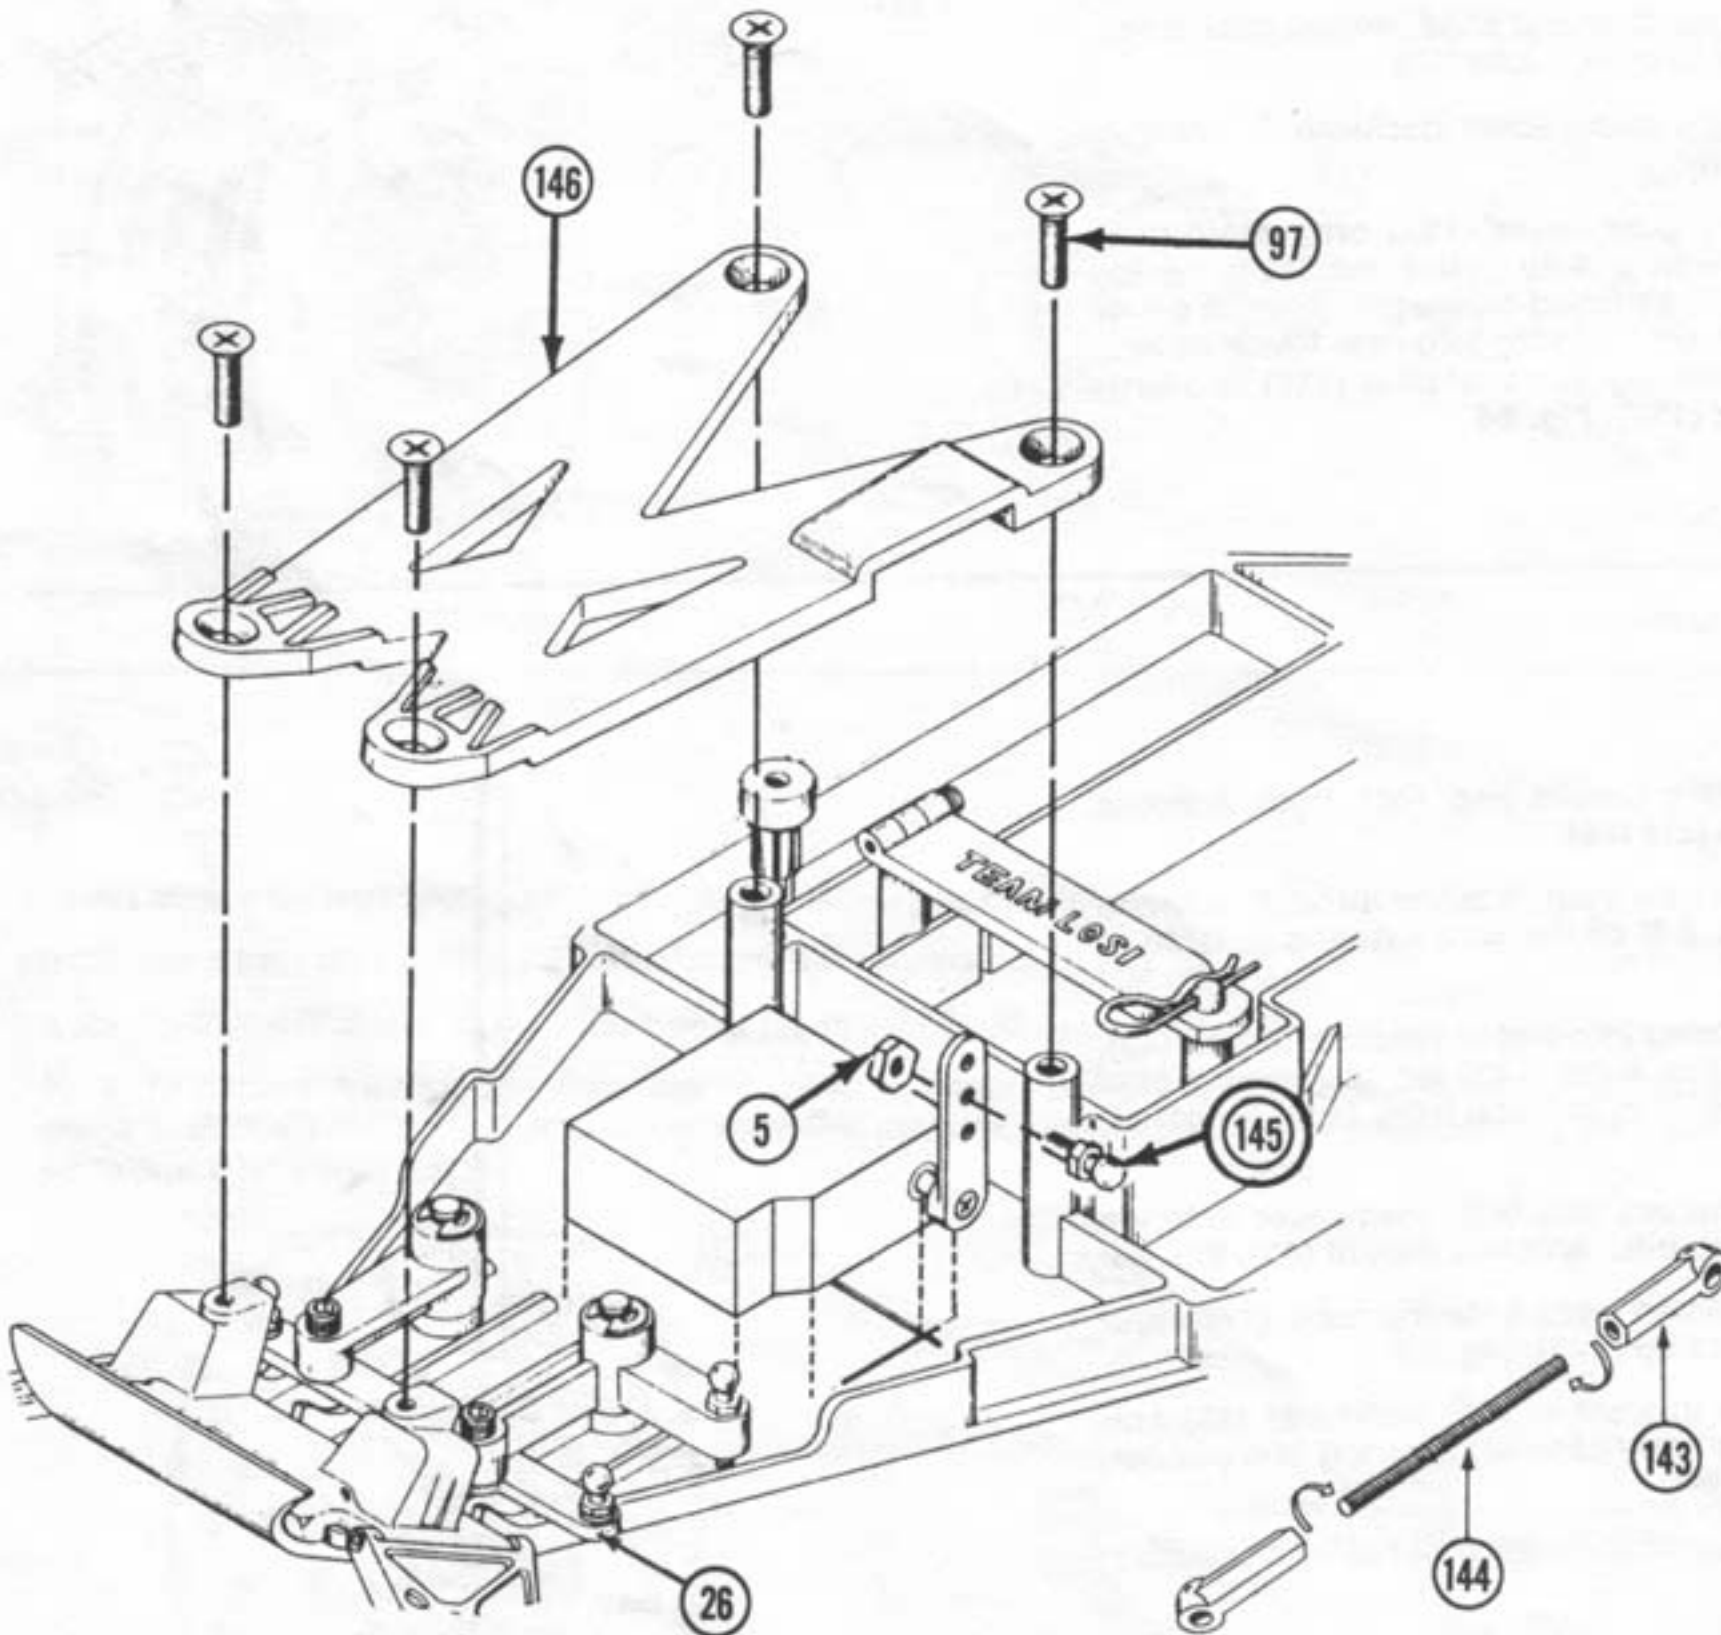

Figure 56
12. Attach servo using servo tape (142) to front of chassis as shown. Fig. 56
* *Note: Be sure servo arm is parallel and is in line with the scribe marked on the chassis (29) and a ball stud (145) is in the servo arm. Fig. 56*
13. Thread an adjustable rod end (143) onto both sides of a 1 1/2" threaded rod (144).
14. Thread one 3/16" ball stud (145) into steering servo arm and secure with a 4-40 nut (5).
15. Attach one end of the threaded rod assembly (144 with rod ends 143) to the ball stud (145) in the servo arm and the other end onto ball stud in the steering bellcrank (26).
16. Secure front stiffener (146) to chassis (29) using four 8-32 x 1/2" steel flathead screws (97). Fig. 56